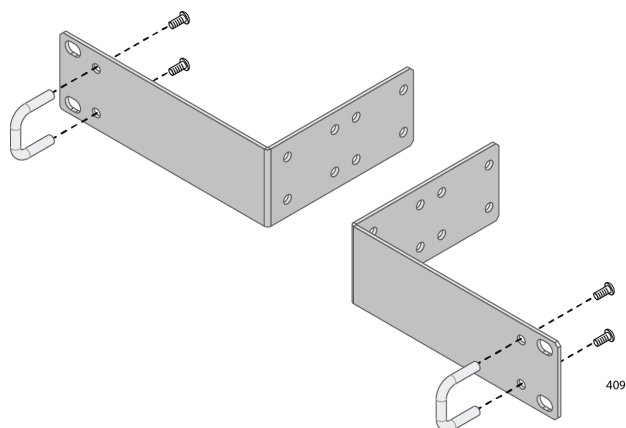

Figure 17. Attaching the Handles to the Brackets
5. Attach the handles to the brackets as shown in Figure 17.